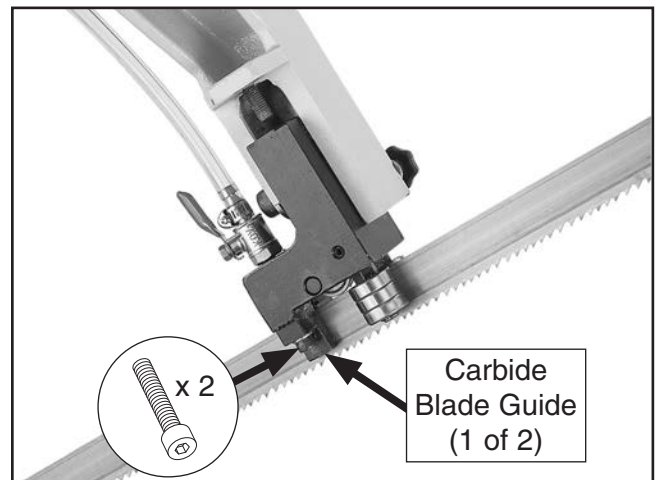

Figure 87. Location of carbide blade guide adjustment components.
4. Loosen (2) cap screws shown in **Figure 87**.
5. Adjust carbide blade guides (see **Figure 87**) so they make same contact with blade as guide bearings, then tighten cap screws.